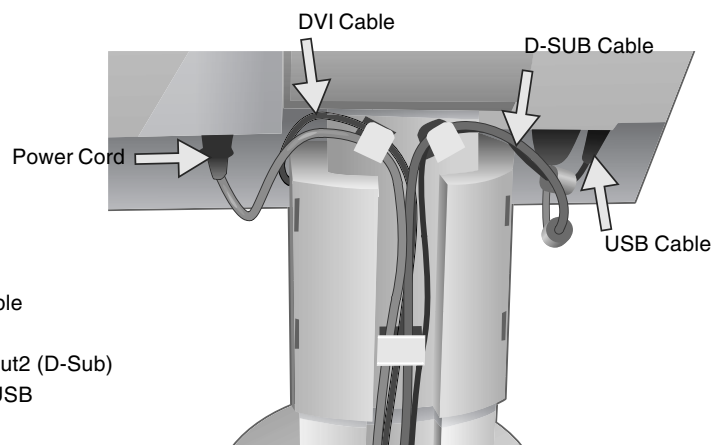

Figure C.2
5. For successful cable management, place the cables in this order into the cable management: Power cord and DVI cable (**Figure C.2**).
6. Place DVI cable and power cord into the specific hooks indicated in **Figure C.2**.
7. Place the D-Sub and the USB cable into the specific hooks indicated in **Figure C.2**.